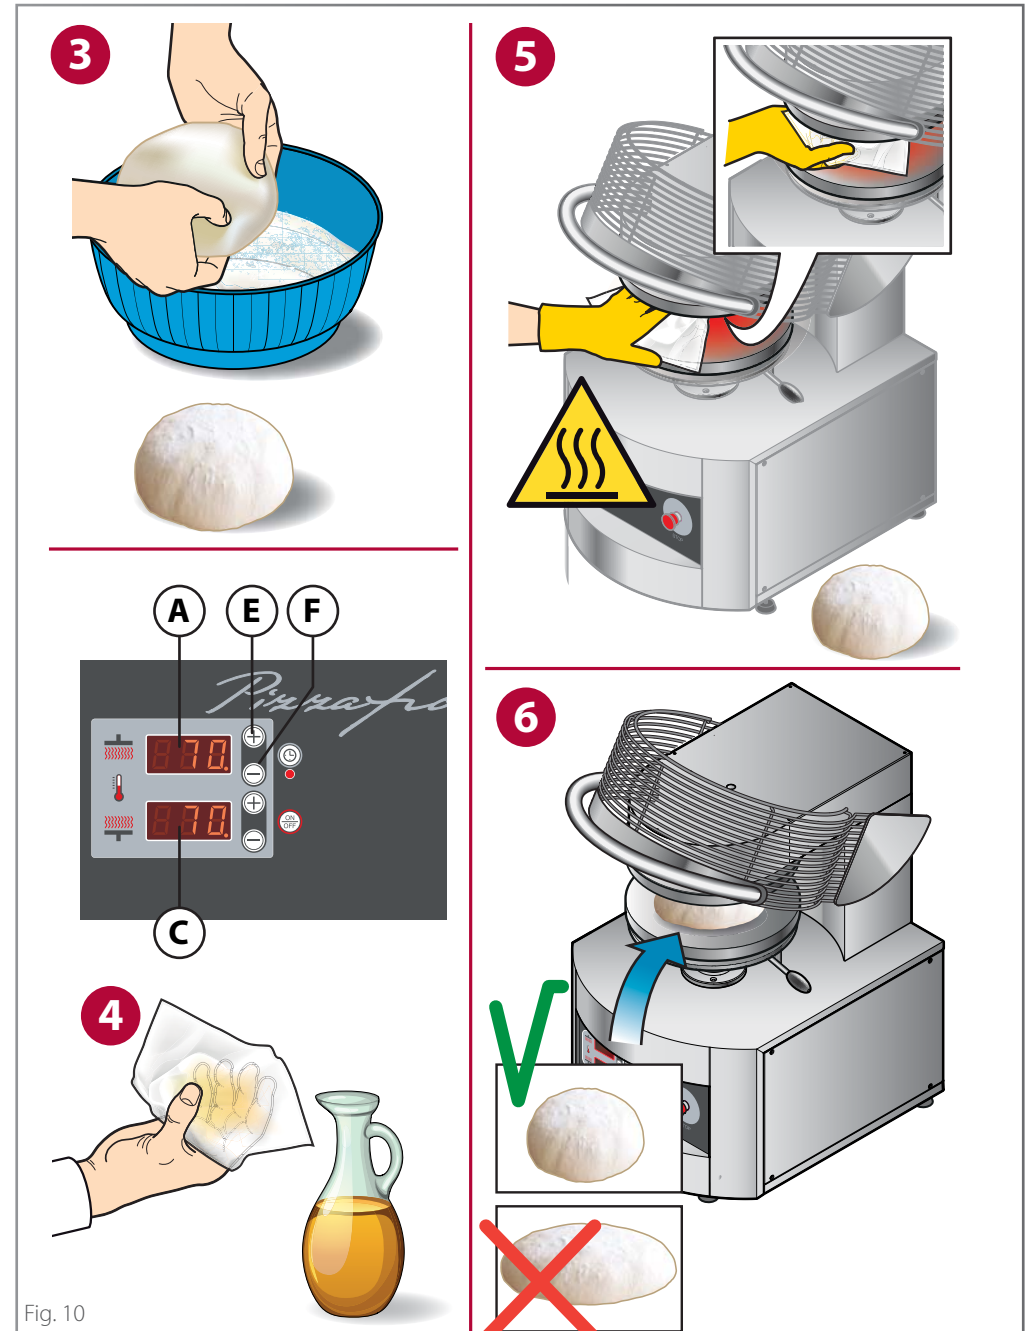

Fig. 10
► Fig. 10
- 4 Wait for the plates to reach the set temperature: the **displays (A) and (C)** show the **real temperatures** of the upper and lower plates (in the example 70°C/ 158°F), to know the **set temperature** (that is to be reached), press the **“+” (E) or “-” (F) keys**. The LEDs next to the temperature supply some useful information: